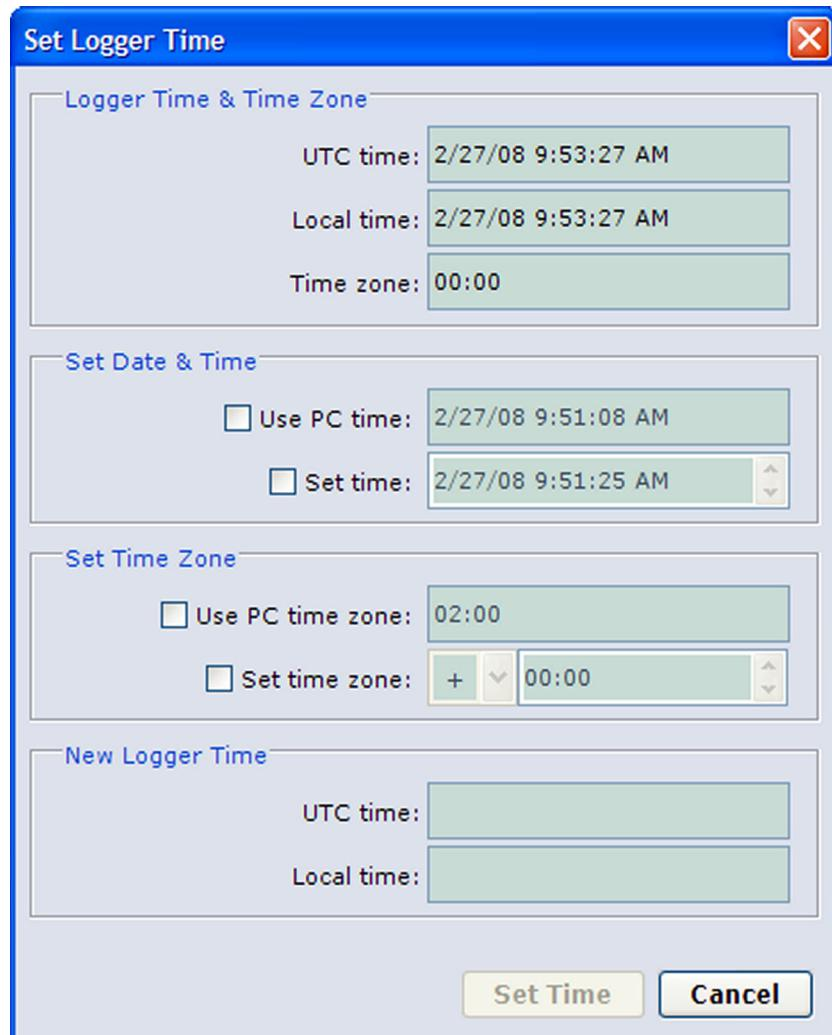

Figure 30 Set Logger Time Window
1. On the **Maintenance** menu, select **Synchronize Clock**. The **Set Logger Time** window, shown in Figure 30 on page 64, is displayed.